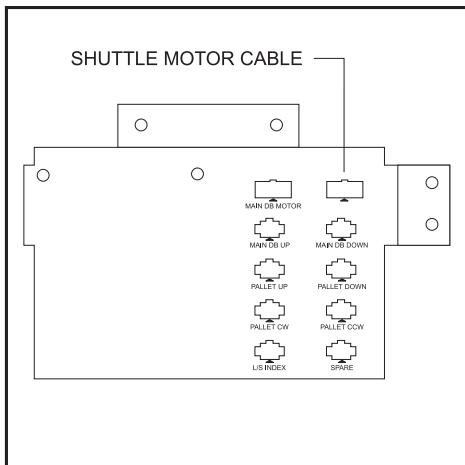

Figure 3-24.
23. Disconnect the tool changer's shuttle motor cable connector, behind the rear access panel on the control box side of the machine. See *Figure 3-24*.